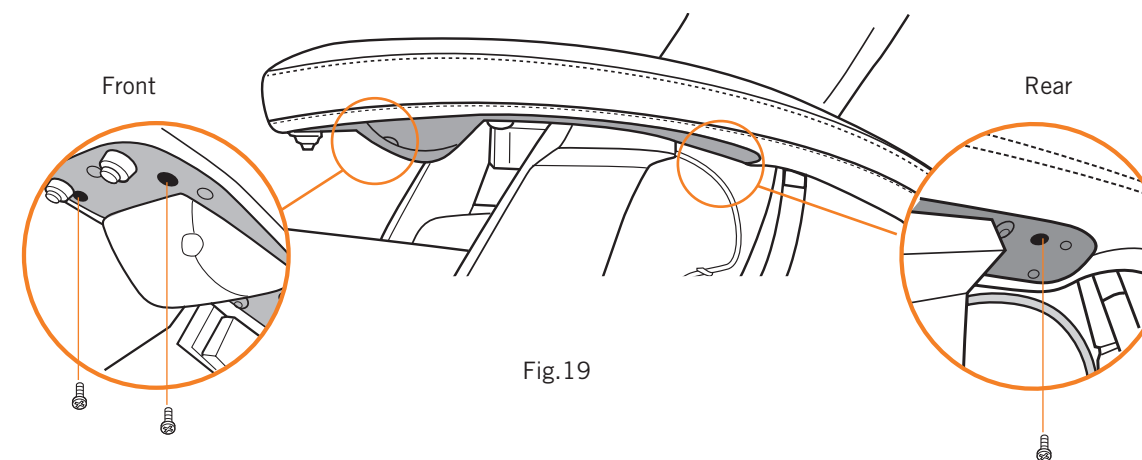

Fig.19
7. While pressing down on the armrest cap, secure it using the provided Phillips-head screwdriver and three screws (Fig.19).